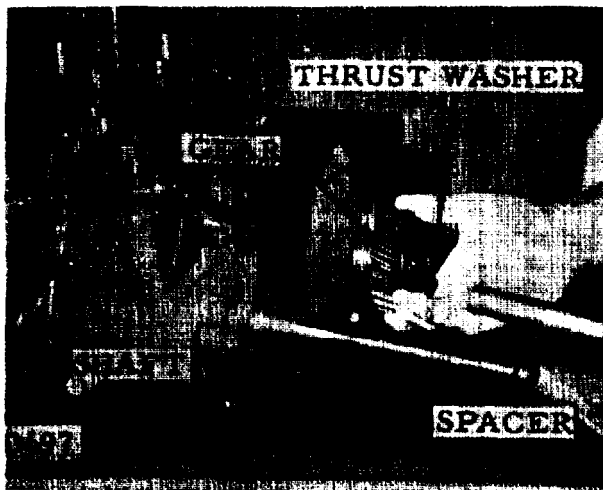

FIGURE 7-40.
b. Install the idler gear to the left of center in this order: (1) thrust washer, (2) gear (with hub toward front), and (3) spacer (see figure 7-40).